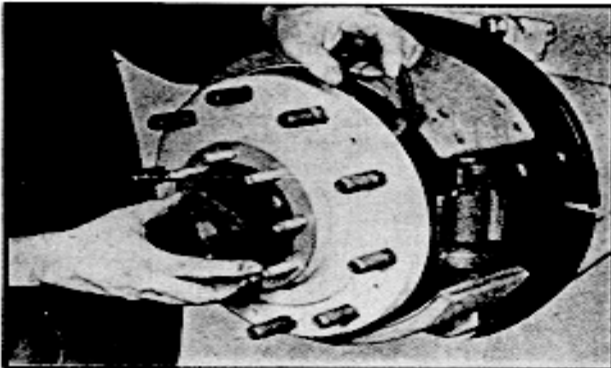

Fig. 16
7. Remove the wheel bearing lock nut (See fig. 16) and lockwasher from spindle. Loosen wheel bearing adjusting nut.